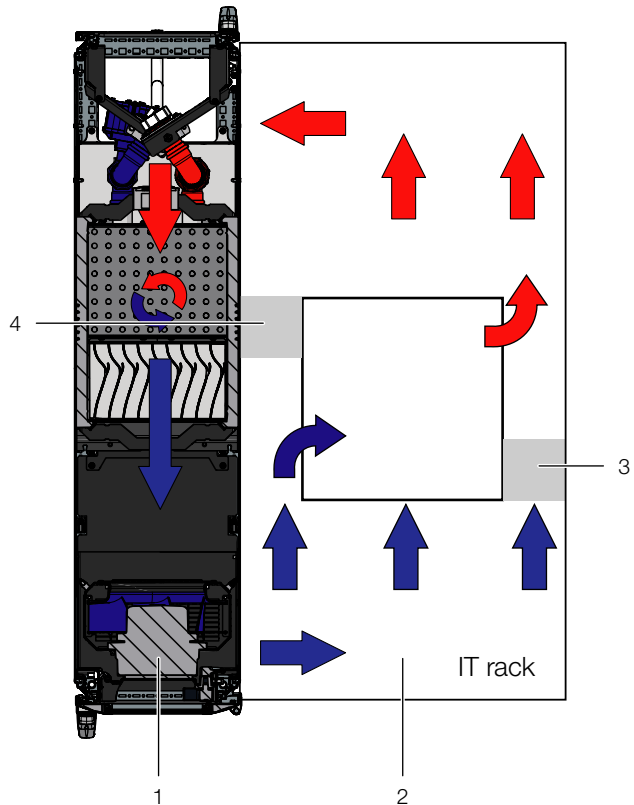

Fig. 26: Placement of foam strips for devices with sideways air throughput (top view) – LCP Rack
- If several devices which require sideways air throughput are included, cut out several pieces of the foam strip, as is appropriate, so that, ultimately, there is a cut-out in the foam to the left or right at the height of each such device in the server rack. Ensure that there are no gaps on the hot air side of the device (fig. 26, item 3).
- Attach the foam strips to the cold air side of the devices set back towards the rear (fig. 26, item 4), making sure that all fans built into the devices can draw air and that none of them are blocked.
The foam strips can be attached between the front and rear supports of the server rack along the entire depth of the devices with sideways air throughput (fig. 26).